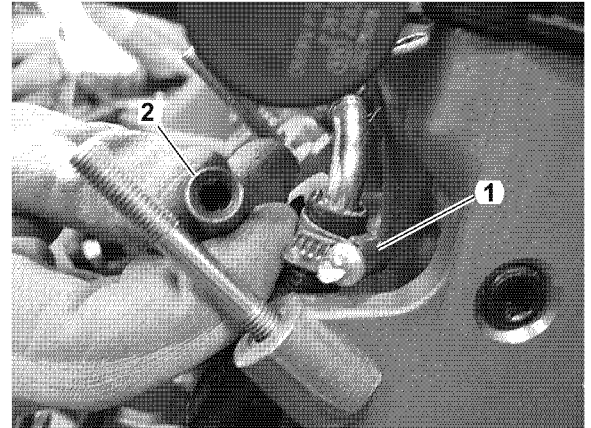

Figure 6-38
- Use special socket (2, **Figure 6-38**) to loosen clamp (1, **Figure 6-38**). Remove the hose.